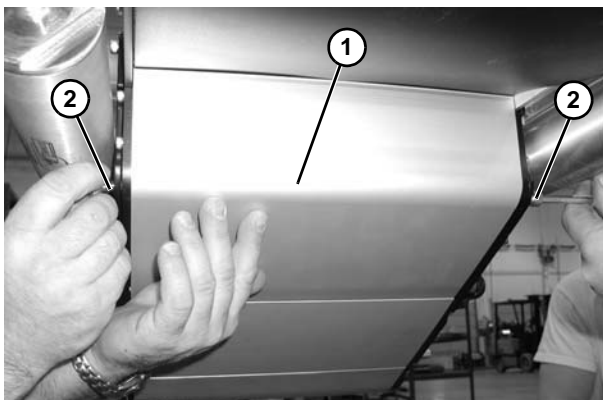

Figure 109
2. Temporarily support idler guard assembly (**Figure 109, item 1**). Remove screws (**Figure 109, item 2**).